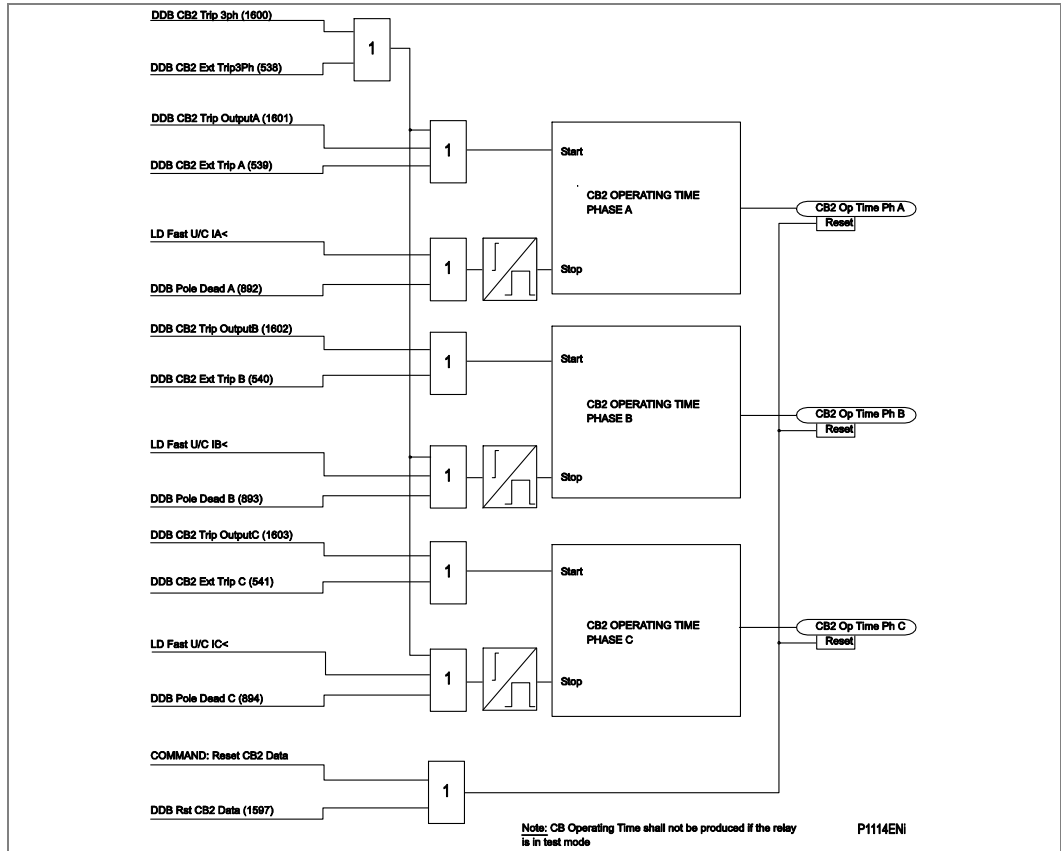

Figure 13 - CB2 condition monitoring – operation time
- Figure 13 - CB2 condition monitoring – operation time